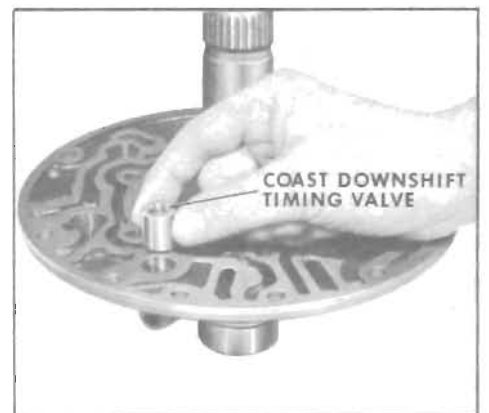

Figure 5-191
9. Remove coast down shift timing valve from the pump cover and inspect for damage. Carefully check to be sure the spring returns the ball to its seat. See Figure 5-191.